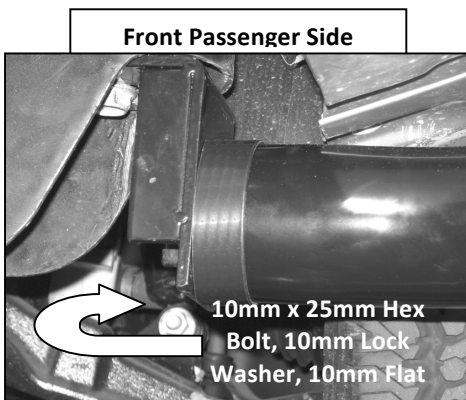

Figure 1
3. Hang front and center Mounting Brackets into position by partially threading factory bolts back into body mounts (Figure 1 & 2). Do not tighten at this time.